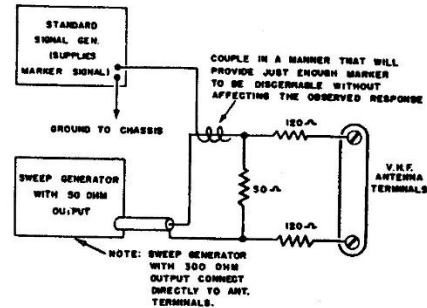

Figure 2. GENERATOR CONNECTIONS FOR TELEVISION R.F. CHANNEL ALIGNMENT.
1. Connect marker and sweep generator as shown in Fig. 2, low side to chassis.